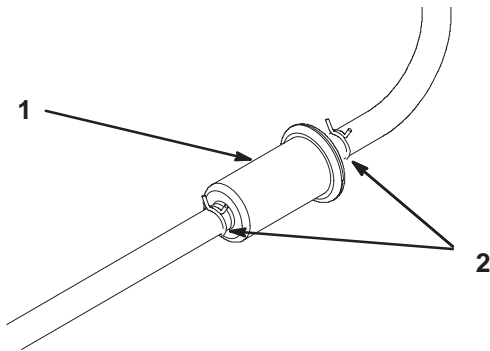

Figure 43
3. Squeeze the ends of the hose clamps together and slide them away from the filter (Fig. 43).
5. Install a new filter and move the hose clamps close to the filter (Fig. 43).